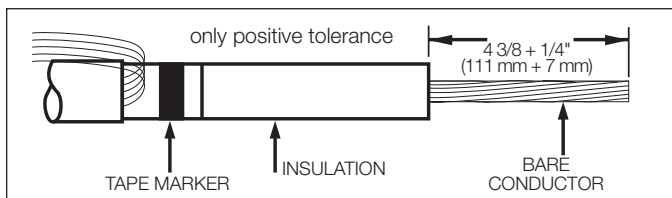

Figure 5.
- Remove insulation exposing bare conductor to length of 4 3/8" (111 mm). (Refer to Figure 5.)